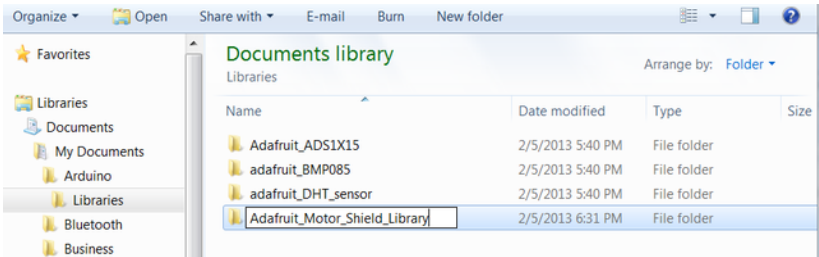

Figure 4-8. *Rename the library folder to the name expected by your program*
3. Give the library folder a valid name. The name of the folder you've copied may be different from the name the Arduino IDE expects to find during normal use. For example, GitHub may append the word *master* to the filename, which is not desired in the final installation. Also, the IDE will not recognize folders with dashes in the name (you can replace these with underscores, which are fine). Check the main code or library examples for the name that the example code expects, and change the name to that, as shown in Figure 4-8.